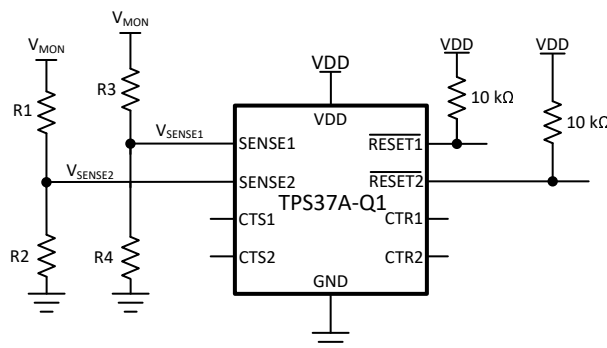

Figure 10-1. Adjustable Voltage Threshold with External Resistor Dividers
For example, consider a 12 V rail being monitored  $V_{MON}$  for undervoltage (UV) using channel 2 of the TPS37A010122DSKRQ1 variant. Using Equation 7 and shown in Figure 10-1,  $R_1$  is the top resistor of the resistor divider that is between  $V_{MON}$  and  $V_{SENSE2}$ ,  $R_2$  is the bottom resistor that is between  $V_{SENSE2}$  and GND,  $V_{MON}$  is the voltage rail that is being monitored and  $V_{SENSE2}$  is the input threshold voltage. The monitored UV threshold, denoted as  $V_{MON-}$ , where the device will assert a reset signal occurs when  $V_{SENSE2} = V_{IT-(UV)}$  or, for this example,  $V_{MON-} = 10.8V$  which is 90% from 12 V. Using Equation 7 and assuming  $R_2 = 10k\Omega$ ,  $R_1$  can be calculated shown in Equation 8 where  $I_{R1}$  is represented in Equation 9: